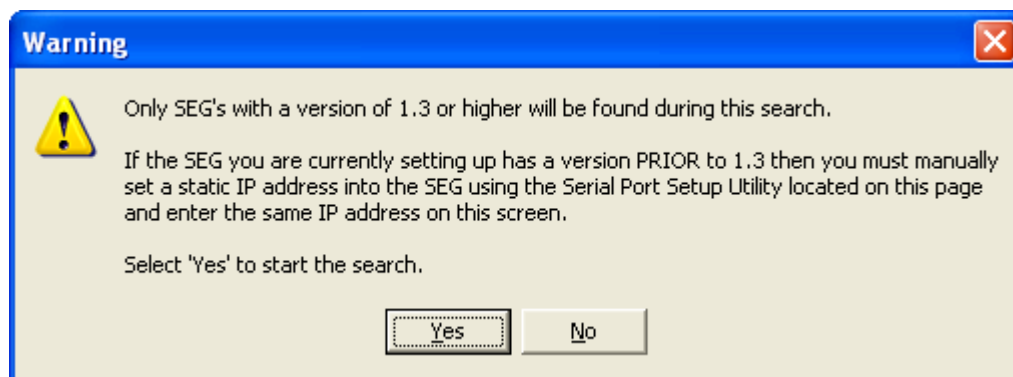

Figure 2: SEG firmware requirements
2. A warning will be displayed (Fig. 2) reminding you what the firmware requirements are. Select Yes to continue the search.